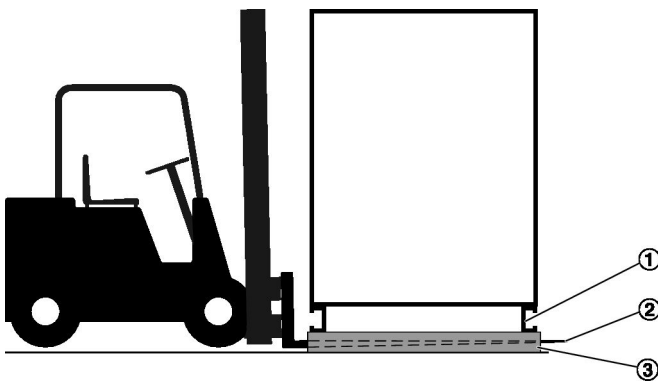

Fig. 12: Moving units with a forklift
1. ▶ Drive the forklift forward until the forks (Fig. 12 /3) are fully between the square edge timber sections (Fig. 12 /2) and protrude from underneath the base frame (Fig. 12 /1) on the opposite side.